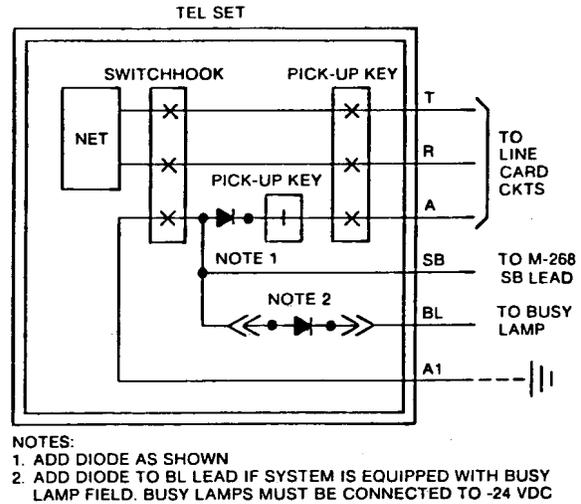

Figure 2
3.02 Key telephones require a diode inserted between the hookswitch and pick-up key of the A1-A lead. See Figure 2
3.03 Malfunctions from different voltage levels or from a blown lamp supply fuse will be avoided by adding diodes as shown in Figure 2 and by using -24 volts for lamp power when a busy lamp field is used. COMMON ALL GROUNDS.